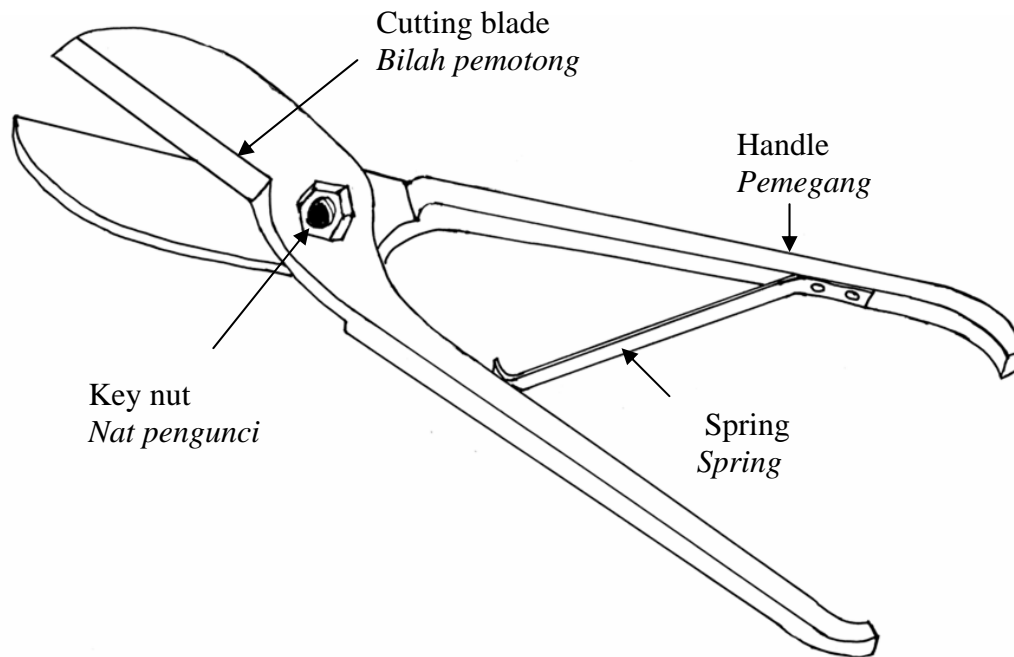

Figure 6
7. Figure 6 shows a metal scissors made from low carbon steel.